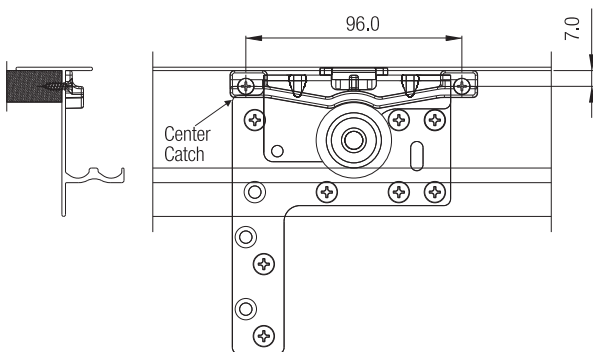

Fig. 5.
- 6.2. Fit the Center Catch as shown in Fig 5. (Center Catch to be fitted in such a position that any one of the Top Hanger Outer comes & locks when the centre shutter is fully closed).